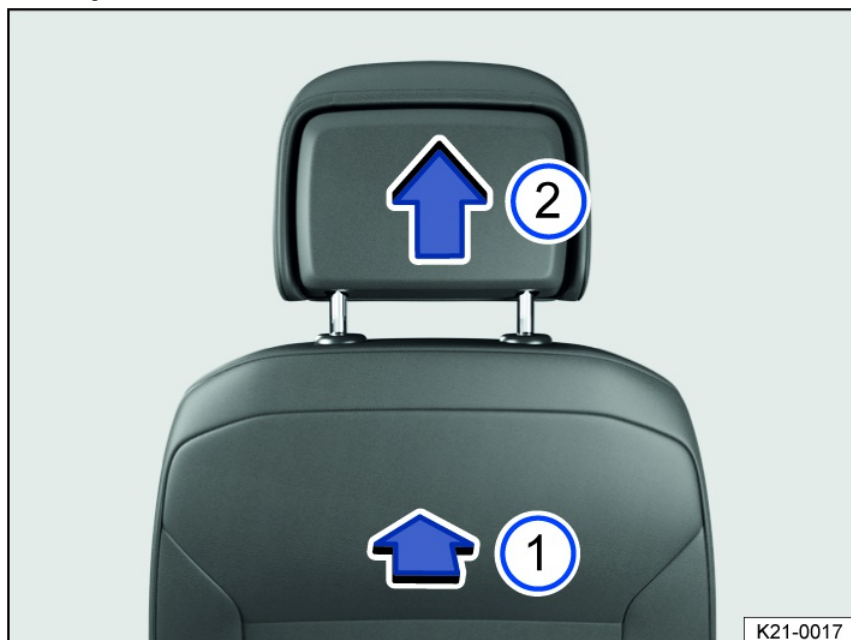

Fig. 91 Removing the front head restraint (general example).
2. To release, find the notch on the rear side in the marked area fig. 91, push inwards in the direction of the arrow and hold.
3. Remove the head restraints in the direction of the arrow fig. 91.